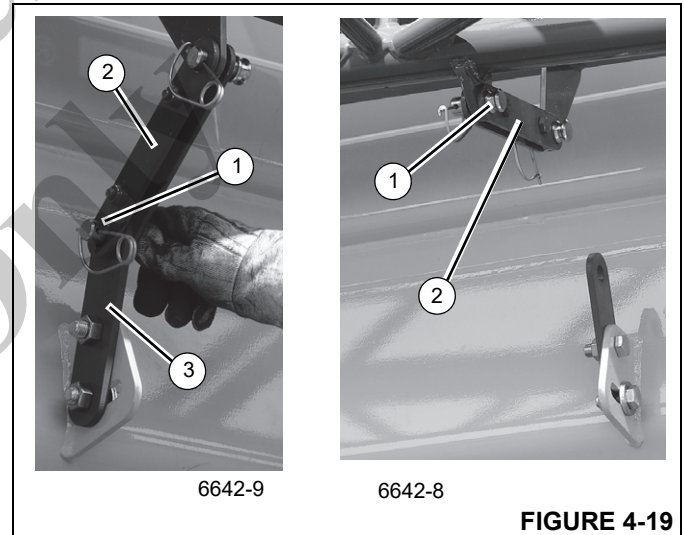
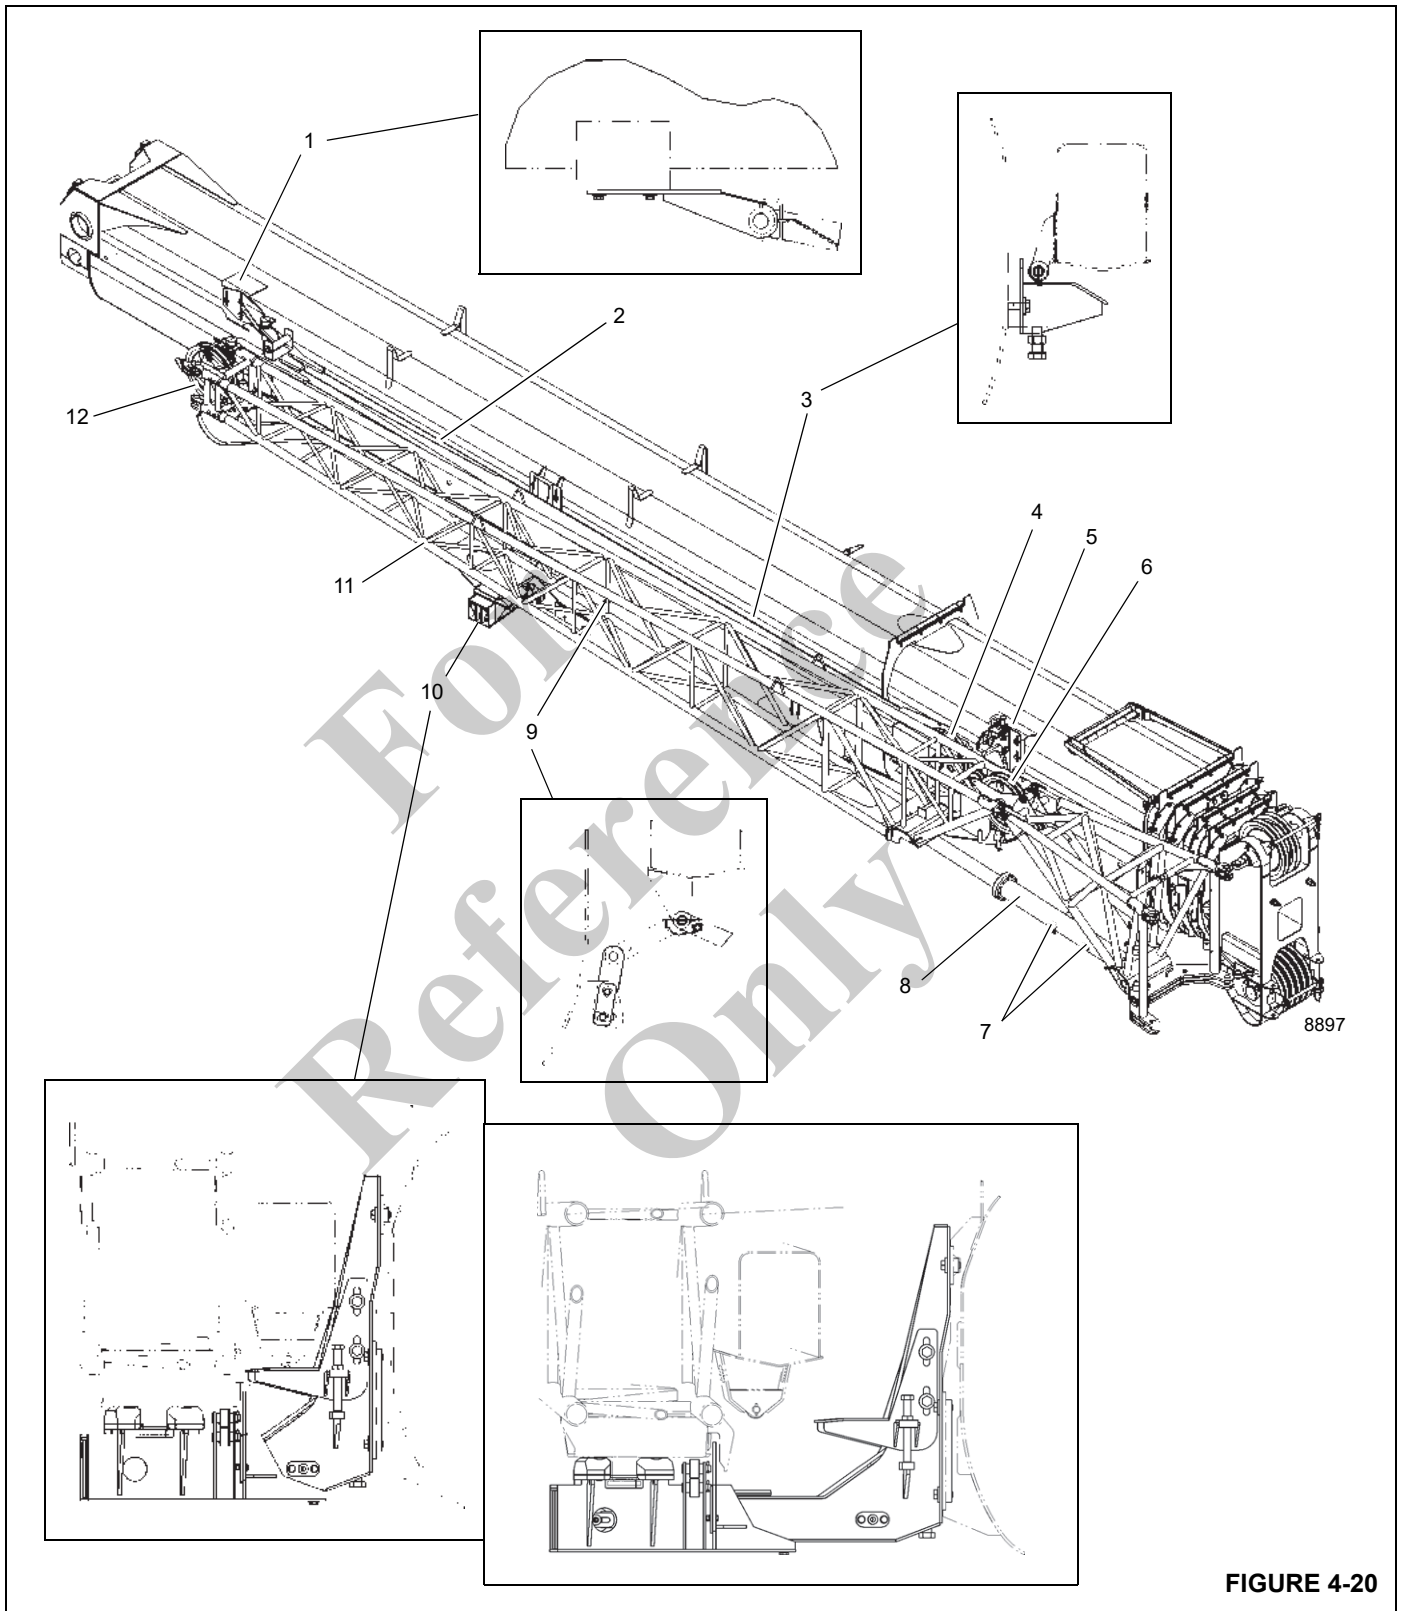

FIGURE 4-19
FIGURE 4-20
Refer to Figure 4-20.
- c. Remove the clip pin and cable retaining pin at the mast sheave (6, Figure 4-20), then remove the hoist
- e. Connect locking bar (9, Figure 4-20; 1, Figure 4-16) to boom extension base section attachment bar (2) using pin (3). Secure with retaining clip.
14. Extend boom approximately 12 in so boom extension base section stowage lugs will line up in front of the middle stowage bracket guide ramp (10, Figure 4-20) and stowage pins (14, Figure 4-20) on the front stowage bracket assembly (5, Figure 4-20) when the boom extension is positioned to the side of the boom base.
23. Secure boom extension base section to front stowage bracket (5, Figure 4-20) on boom base using lock hitch pin (13, Figure 4-20). Ensure lock hitch pin is pushed in all the way, then secure with retaining clip.
26. Using control pendant, fully retract middle stowage bracket (10, Figure 4-20).
27. Ensure the two stowage lugs on the boom extension base section are fully engaged with the pins (14, Figure 4-20) on front stowage bracket (5, Figure 4-20).
28. Secure boom extension fly section to rear stowage bracket (1, Figure 4-20) on the boom base using the attachment pin.
31. Remove pin (1, Figure 4-19) from boom base attachment bar (3). Move locking bar (10, Figure 4-20; 2, Figure 4-19) to boom extension base section and install pin (1). Secure with retaining clip.
FIGURE 4-20 continued